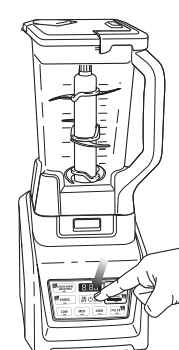

Fig. 8
- 13 When you have reached your desired consistency, stop the appliance by pressing the power button (⏻) and wait for the Stacked Blade Assembly to stop turning. (Fig. 8)